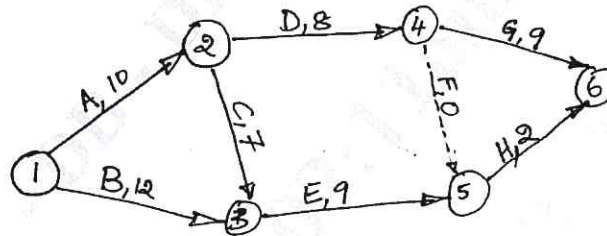

Fig.Q2(c)
- Using CPM method, determine "Critical activities" and "Critical path" for the Network given under Fig.Q2(c). What is project duration? (08 Marks)